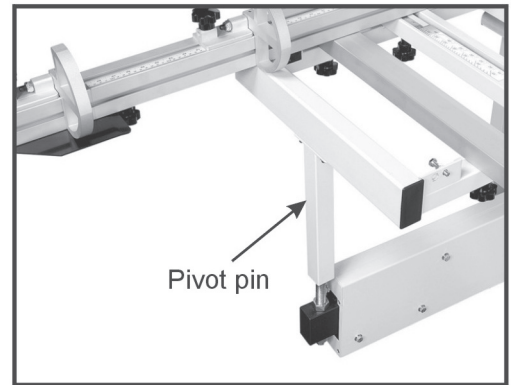

Fig. 15
2. Secure the pivot pin to the crosscut table first, Place the extension table set on the swing arm and slide the T-nut into the T-slot in the sliding table. (Fig. 15, 16)